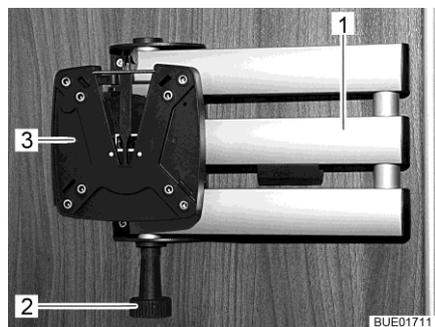

Fig. 67 Holder (two-piece jointed arm)
- Pull the release knob (Fig. 67,2). The jointed arm (Fig. 67,1) is unlocked.
- Turn the flat screen back into the original position until you hear the holder (Fig. 67,3) engage in the lock.